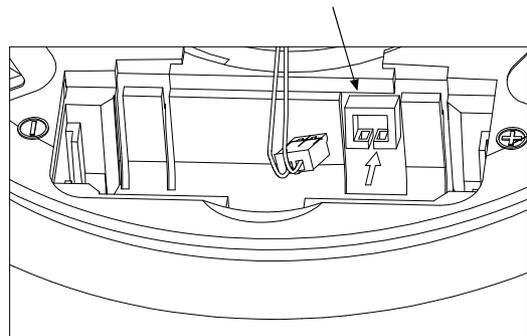

Figure 3b. Battery Connection for CR17450
- B. Replace battery (see Figure 3a or Figure 3b according to the battery used).